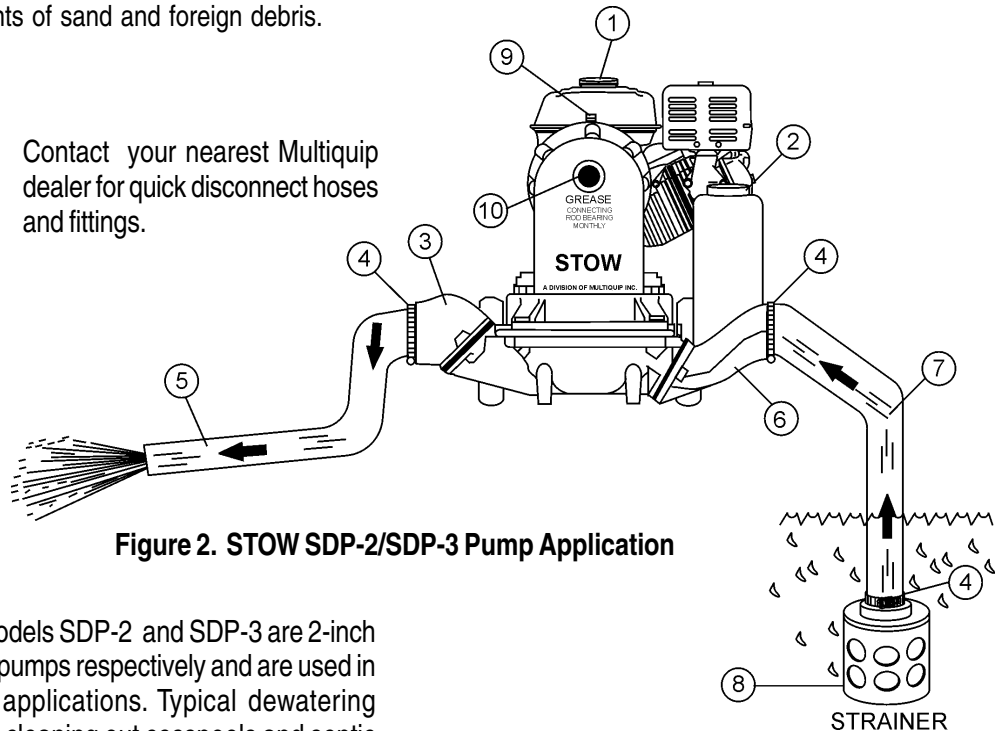

Figure 2. STOW SDP-2/SDP-3 Pump Application
Figure 2 shows a typical application using the **STOW** SDP-2 or SDP-3 diaphragm pump. Please note that this pump is intended for the removal of clean water and water containing some debris and solids. Maximum size of solids should not exceed 1 inch (25 mm) in diameter. **DO NOT** set strainer on bottom of water bed. Placing the strainer above the water bed will prevent the pump from drawing in excessive amounts of sand and foreign debris.
3. To prime pump, remove fill cap (Figure 2) and fill pump casing with water. If the pump casing is not filled with water before starting, it will not begin pumping.
6. Make sure the **suction strainer** (Figure 2) is clean and securely attached to the water end of the suction hose. The strainer is designed to protect the pump by preventing large objects from being pulled into the pump.
1. Check that all hoses are **securely** attached to the pump. Make certain suction hose (Figure 2) does not have any air leakage. Tighten hose clamps and couplings as required.
4. Check that the **discharge** hose (Figure 2) is not restricted. Place hose so that it lays as straight as it is possible on the ground. Remove any twists or sharp bends from hose which may block the flow of water.